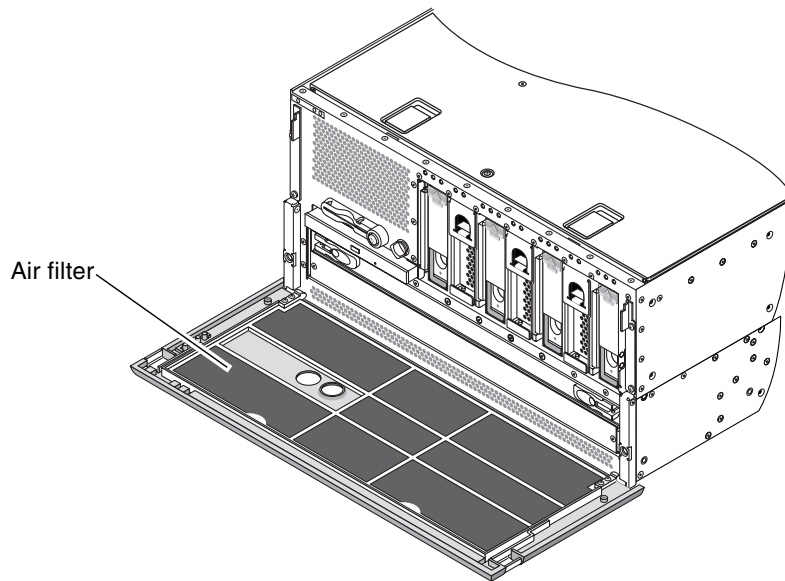

FIGURE 3-7 Locating the Air Filter
2. Locate the air filter behind the front door panel (FIGURE 3-7).